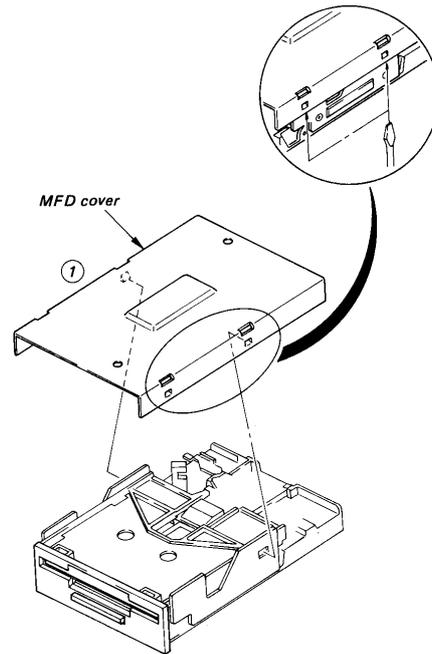
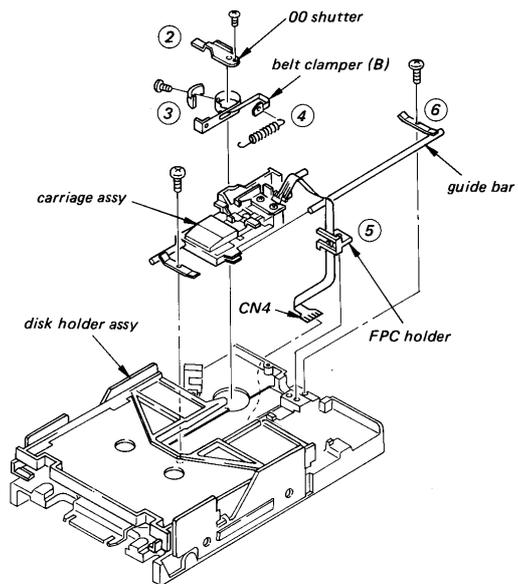

Fig. 3
Fig. 4
- ① Remove the MFD cover (refer to Fig. 3).
- ② Disconnect connector CN3 and remove the 00 sensor assembly.
- ③ Attach the 00 sensor assembly and connect connector CN3.
- ④ Attach the MFD cover.
#### 2-4-1. Removal (Refer to Fig. 3, Fig. 4)